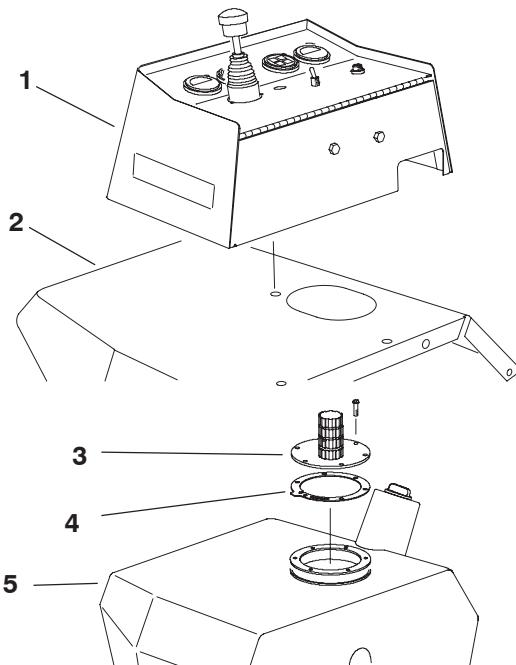

Figure 6
2. Open control panel cover. Thru hole in right fender, thoroughly clean top of hydraulic tank around tank cover (Fig. 6).
3. Remove (6) flange head screws (Fig. 6) securing tank cover and gasket to tank and remove components from tank. Discard components.